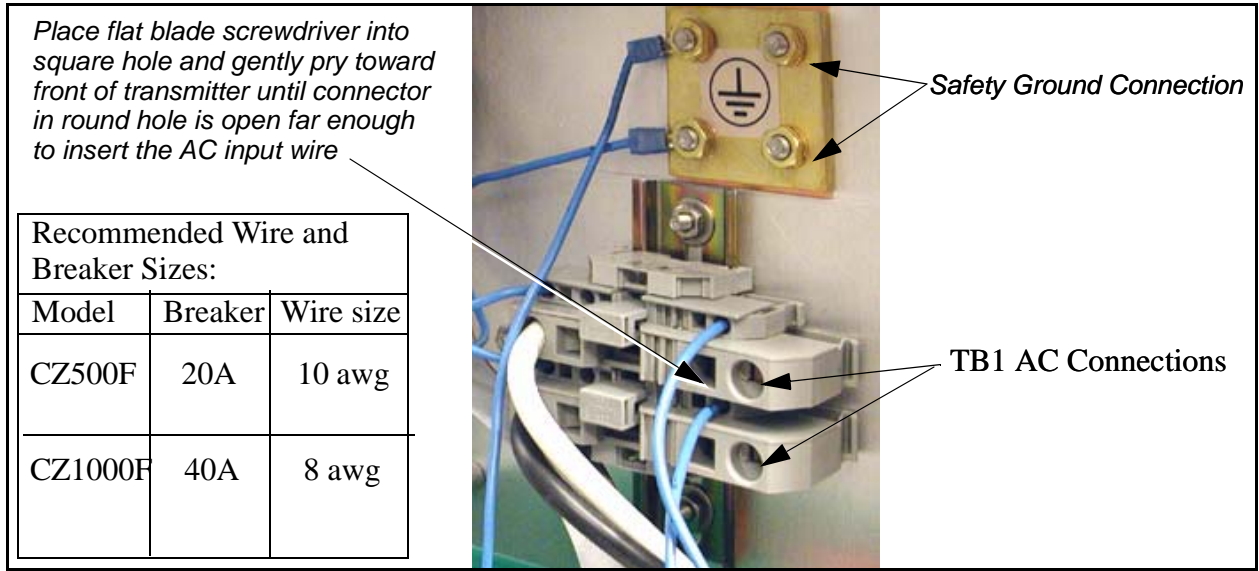

Figure 2-1 AC and Safety Ground Connections
- Connect the Primary AC conduit to the top of the transmitter cabinet.** The top of the transmitter cabinet has a pre-cut hole for a 3/4" conduit connection. For Conduit connections to the transmitter refer to the Transmitter Outline Drawing 843-5560-071, Top View. The AC input is the routed straight down to TB1, shown in Figure 2-1.
- Connect the AC wires to TB1-2 and TB1-4.** The AC Flow diagram shows ac wiring to the transmitter along with recommended wire gauge and breaker size. Wire gauge and breaker size are also given in the Figure 2-1.